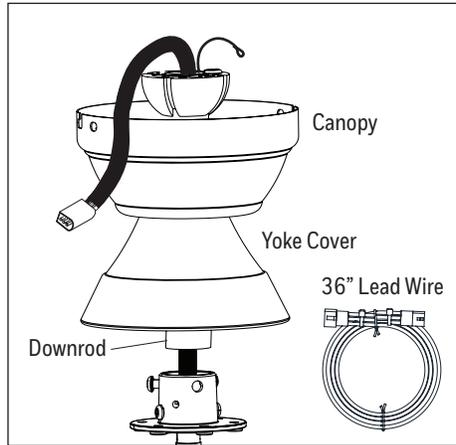

Figure 3.2
2. Insert the downrod through the canopy and yoke cover. Feed the wires and braided cable from the fan through the downrod. Depending on the length of downrod you use, you may need to use the 36-inch lead wire to accommodate a 36 or 48-inch downrod (sold separately). When necessary, connect the 3-pin connector extending from the center of the downrod to one end of the 36-inch lead wire. Note: The downrod included with this fan will not utilize the 36-inch lead wire (Figure 3.2).